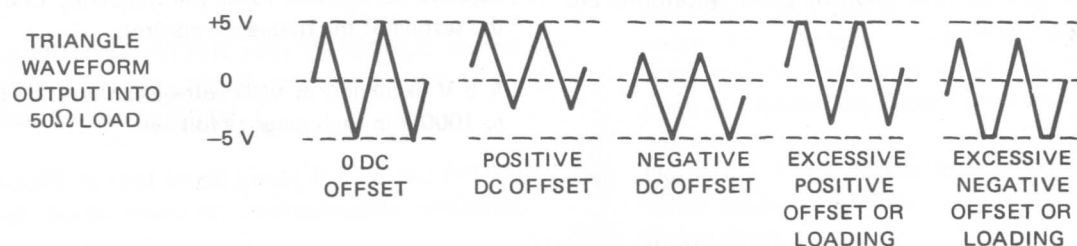

Figure 2-6. DC OFFSET Control
9. Select the desired polarity of dc offset and the amount of offset using the DC OFFSET control. Offset voltage plus peak voltage cannot exceed the voltage range limit, ± 5 volts in the 0 dB range. If an excessive amount of dc offset is used, waveform clipping may be observed (see Figure 2-6). Both signal and offset are attenuated by the attenuator.